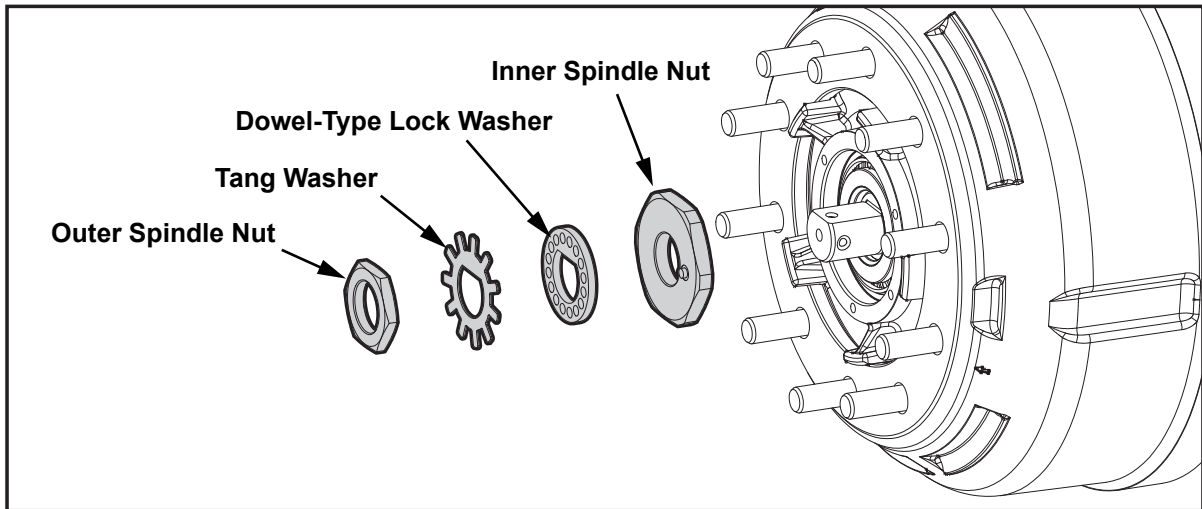

Figure 11
1. Remove the outer spindle nut, tang washer and dowel-type lock washer and set aside for reinstallation (*see Figure 11*).
12. Bend two opposite sides of the retainer washer over two flat edges of the outer nut (see Figure 11).